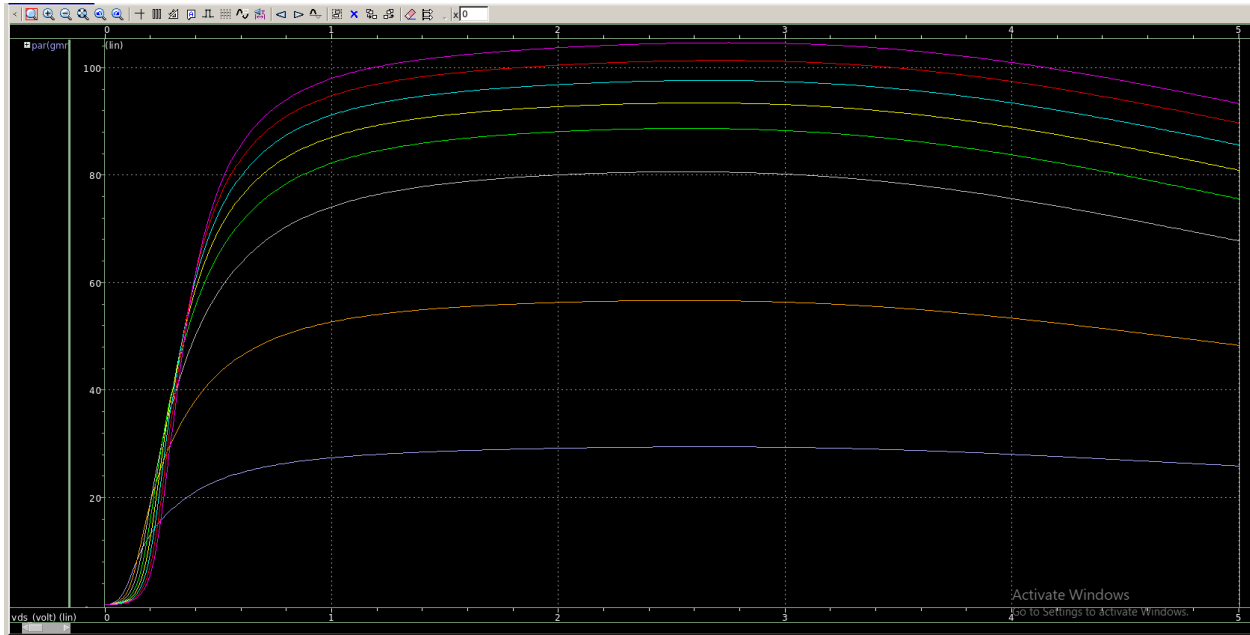

Figure 1. NMOS  $g_m r_o$  vs  $V_{in}$  characteristic curve
- From Figure 1,  $V_{in}$  increases,  $V_{DS}$  increases, NMOS operates from Triode to Saturation region,  $g_m$  increases. In saturation region,  $I_D$  is almost constant so  $g_m$  is also constant.